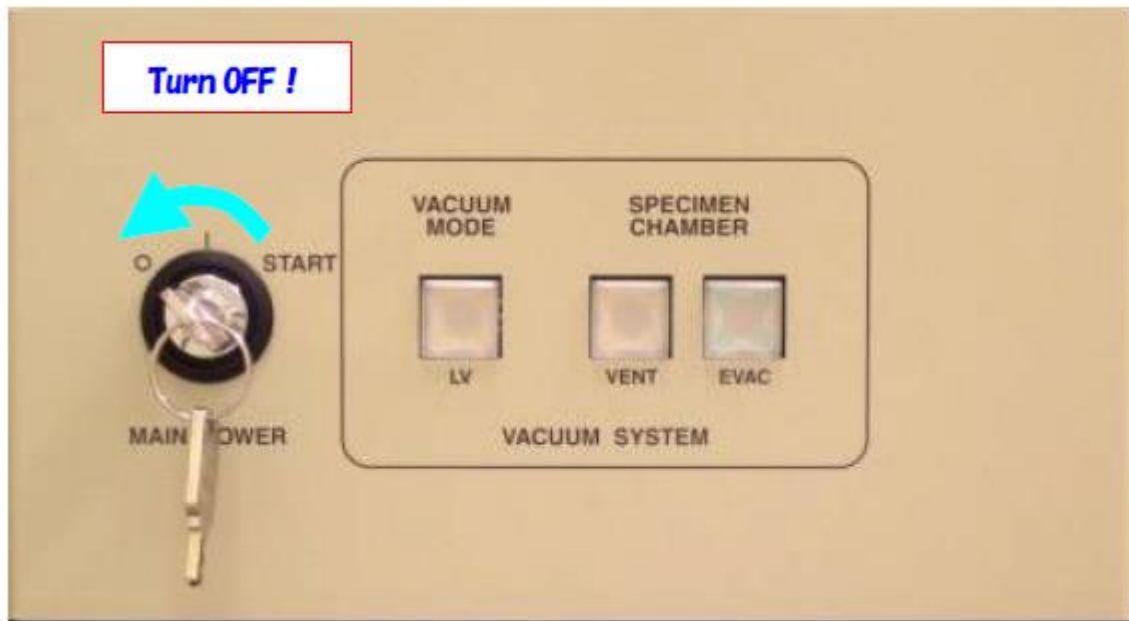

Figure 14: Detail of front panel with indication of how-to shutdown the system in the event of an emergency.
1. Shut down the SEM by turning the MAIN POWER key switch to the OFF position and removing the key (see Figure 14 below).